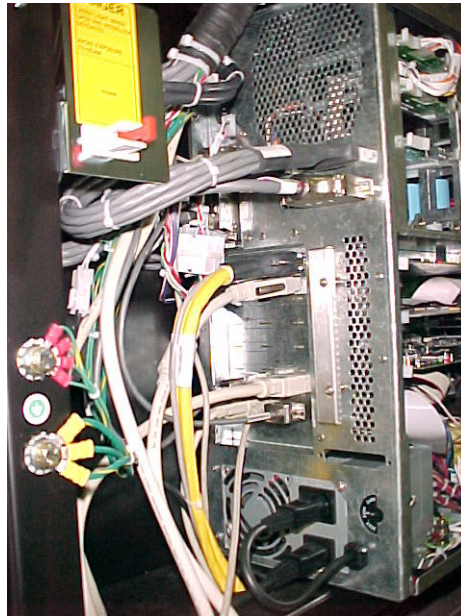

Figure 21: TSP connector on MB-SOMC board
2. Connect the other end of the TSP cable to connector COM 3 or 4 on the MB-SOMC board (see Figure 21 on page 69).